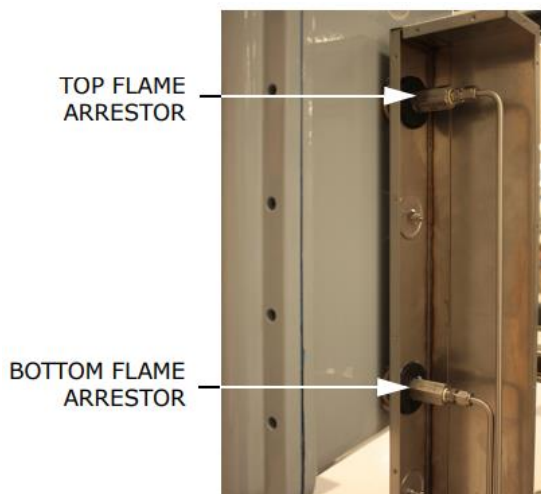

Figure 42. Flame arrestor positions inside enclosure
5. Disassemble the tubing using a 9/16 in. wrench. Refer to Figure 42 below.